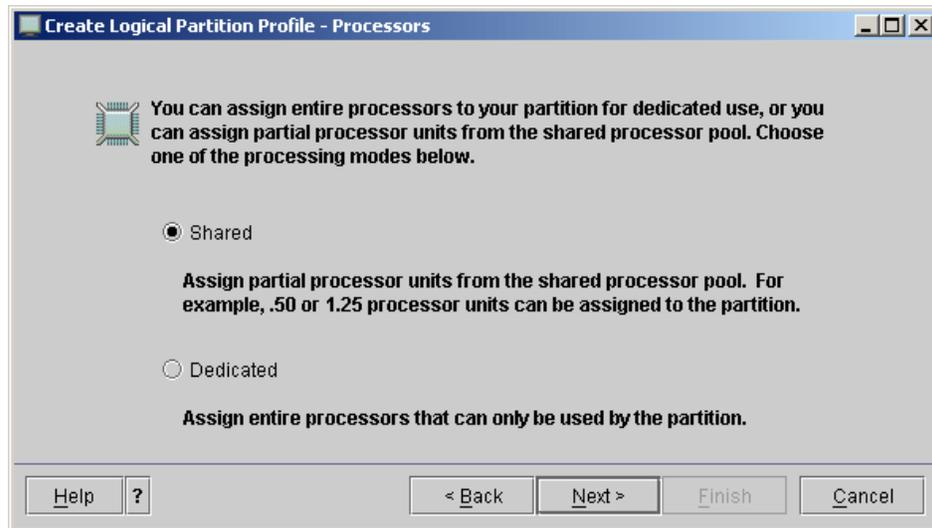

Figure 3-7 Using shared processor allocation
7. Select the **Shared** check box for processor allocation, as shown in Figure 3-7.